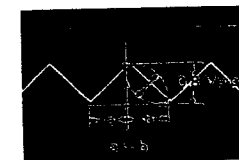

Fig. 4-5
- (1) Connect an oscilloscope to TP-5 on WFP BOARD.
- (2) Adjust R37 (H-TRI-PHASE) so that a equals b as shown in Fig. 4-5.
- (3) Adjust R44 (H-TRI-LEVEL) so that the level is 0.8 Vp-p.
- (4) Adjust R42 (H-TRI-LIN) so that linear line is obtained.